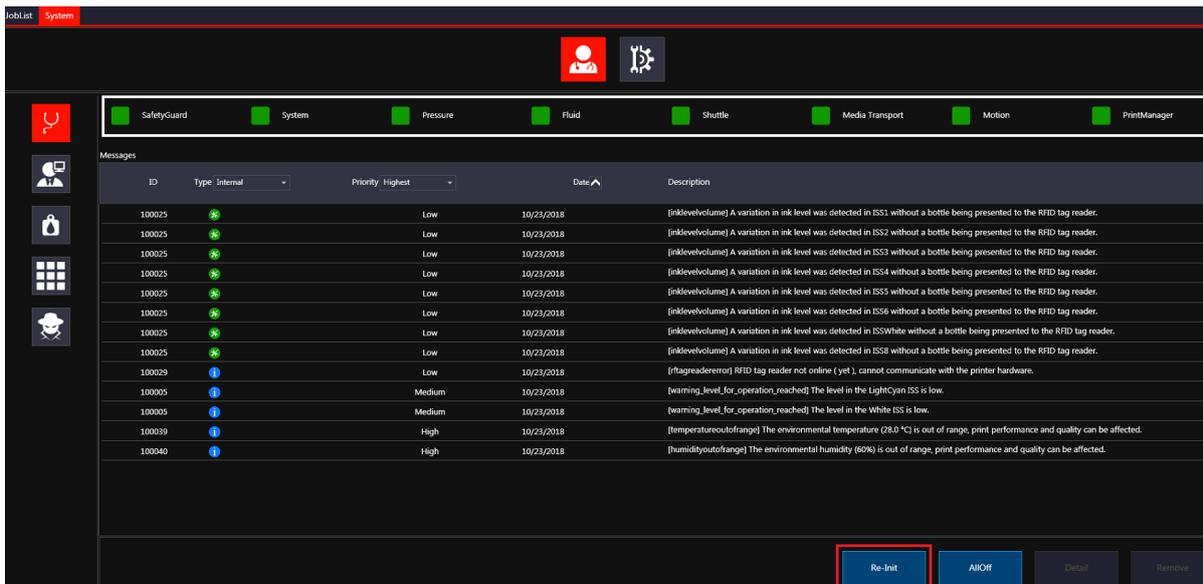

Fig.4-6: Status Indicators All Green
- Step 7: Click on the “Re-init” button in the system screen (outlined in red Fig.4-6).
Important: The Jeti Tauro H3300 LED is ready to use when the status indicator is ready (green) for all modules. The modules are only entirely green if also a configuration for the printer is loaded. No operational mode selected, the Media Transport module will remain orange. (outlined in white in Fig.4-6).